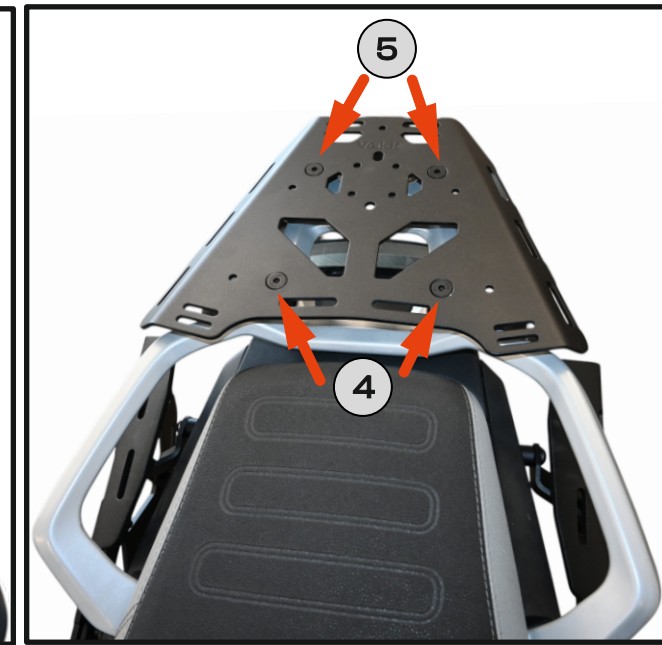

Fig. 4
4. Install the plate and tighten the bolts **[4]. Use medium-strength threadlocker. [Fig. 4]**
5. Install the plate and tighten the bolts **[5]. Use medium-strength threadlocker. [Fig. 4]**